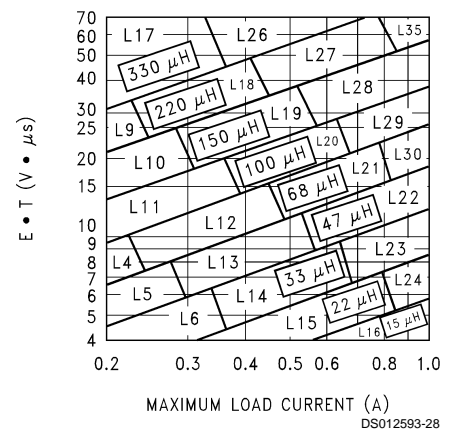

FIGURE 7. LM2598-ADJ
B. Use the $E \cdot T$ value from the previous formula and match it with the $E \cdot T$ number on the vertical axis of the Inductor Value Selection Guide shown in Figure 7.
D. From the inductor value selection guide shown in Figure 7, the inductance region intersected by the 35 ($V \cdot \mu s$) horizontal line and the 1A vertical line is 100 μH , and the inductor code is L29.